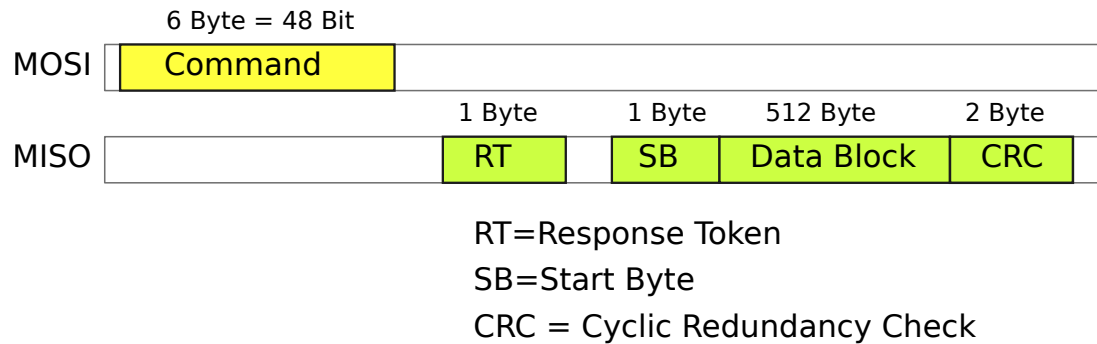
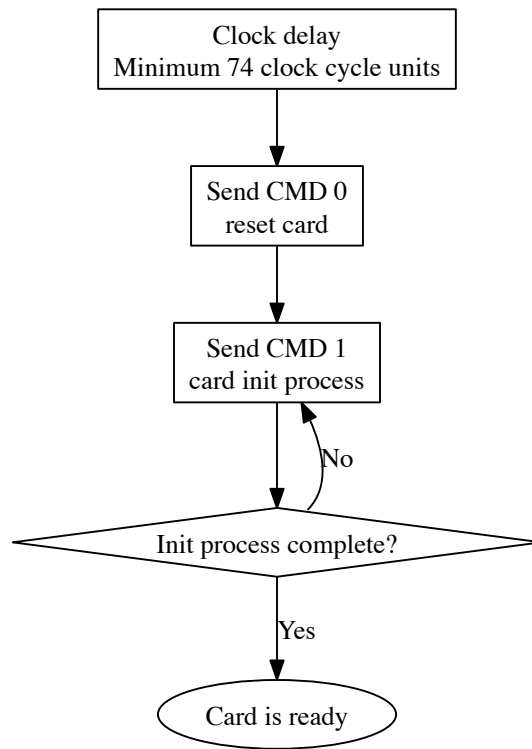

Figure 3: Sending a command to the MMC
Figure 4: Flow for initializing
Sending commands requires you to stick to a predefined protocol that we will describe. A basic sequence for one command can be found in Figure 3. In Figure 4 and 5 you can find the sequence of commands we have to send to the card in order to initialize it or read a block.
Each command is a binary coded sequence in a format that is defined in the official reference manual. Figure 3 should give you a basic idea of how the communication works. The start byte (SB) consists of 8 times HI (1). Before that, the card only sends 0s. The response token (RT) consists of 8 bits. Each bit indicates a certain error or a successful command. In case the command finished successfully, the card returns 0000 0001.
The whole initialization procedure is shown in Figure 4.